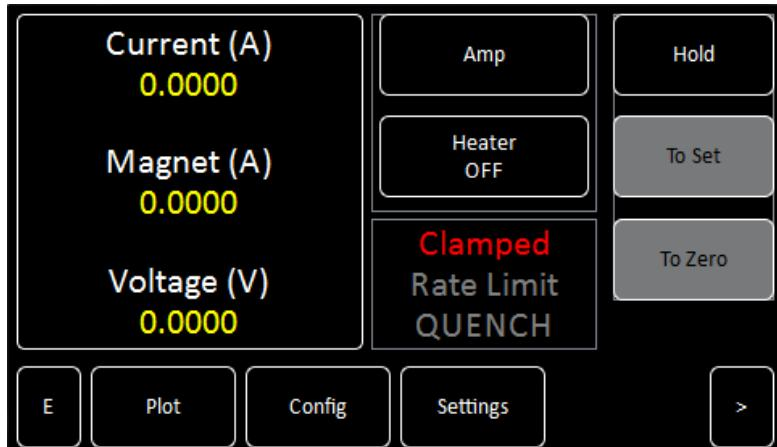

Figure 2-3 Home page
- 3 Wait until the Home page appears (see Figure 2-3).